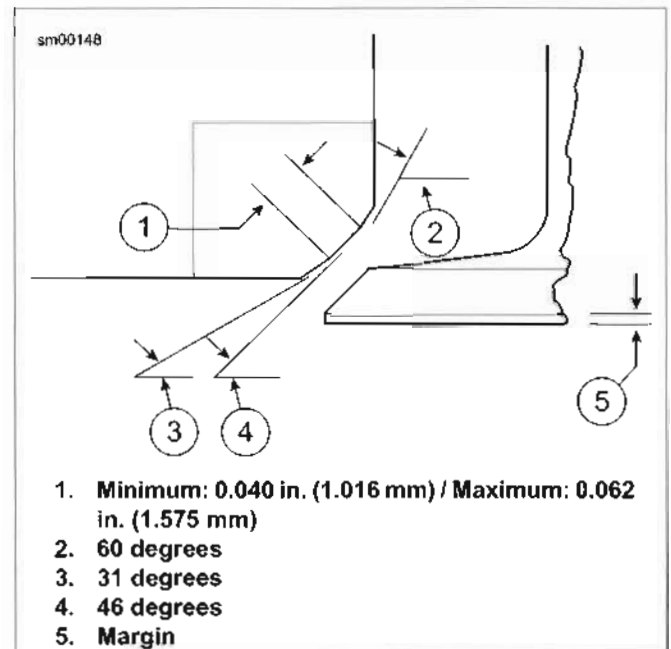

Figure 3-50. Valve and Seat Dimensions
- Replace the valve if margin is less than 0.0313 in (0.795 mm). See Figure 3-50.